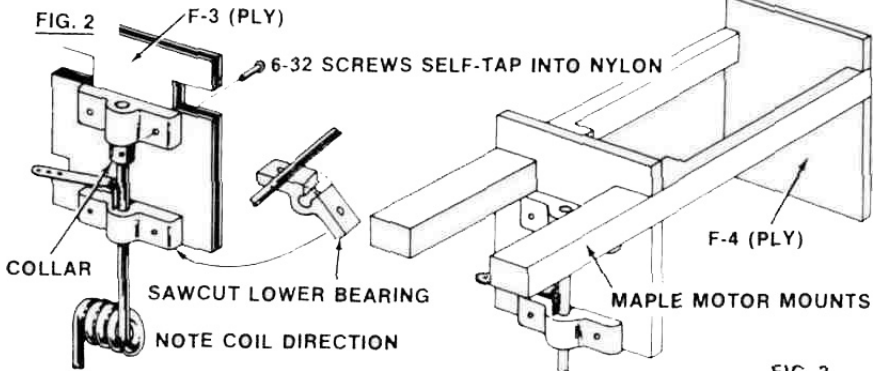

FIG. 3
3. Glue F-3 and F-4 (ply) to the shaped motor mounts. See Fig. 3.